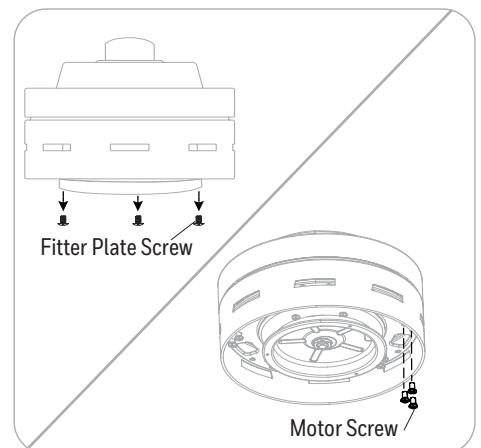

Figure 2.3
3. Remove the three fitter plate screws and the packing material from the motor assembly. Discard the orange packing material from the top and bottom of the motor assembly but save the three fitter plate screws for later. Then, remove the 24 motor screws from the underside of the motor assembly and save for blade arm attachment later on (Figure 2.3).